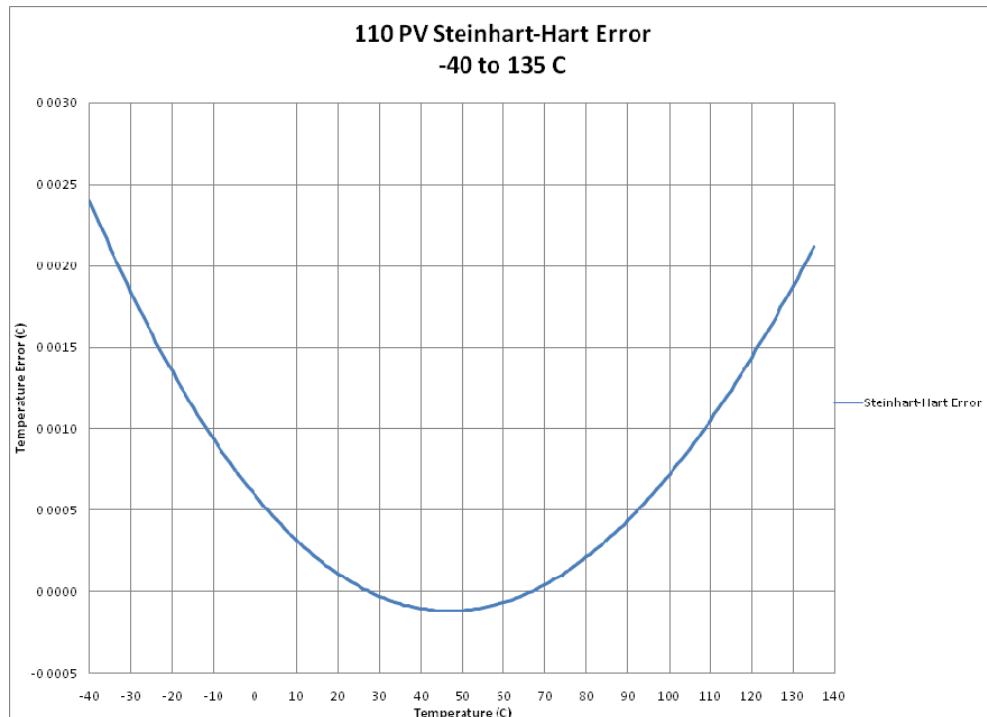
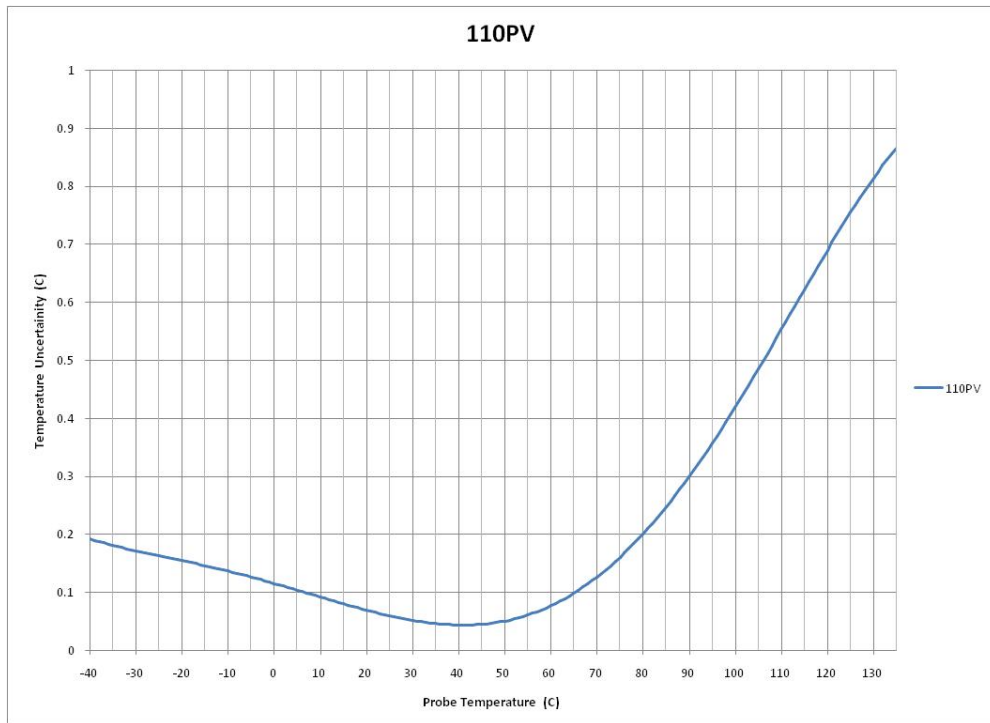

FIGURE 2-1. Steinhart-Hart Error
FIGURE 2-2. 110PV measured with a 3-wire half bridge
The overall probe accuracy is a combination of the thermistor's interchangeability specification and the accuracy of the bridge resistor. The Steinhart-Hart equation used to calculate temperature has a negligible error (Figure 2-1). In a "worst case" the errors add to an accuracy of  $\pm 0.2^{\circ}\text{C}$  over the range of  $-40^{\circ}$  to  $70^{\circ}\text{C}$ ;  $\pm 0.5^{\circ}\text{C}$  over the range of  $71^{\circ}\text{C}$  to  $105^{\circ}\text{C}$ ; and  $\pm 1^{\circ}\text{C}$  from  $106^{\circ}\text{C}$  to  $135^{\circ}\text{C}$ . The major error component is the interchangeability specification (tolerance) of the thermistor. The bridge resistor has a 0.1% tolerance with a 10 ppm temperature coefficient. Figures 2-2 to 2-7 show the possible worst case probe and measurement errors.
Connections to Campbell Scientific dataloggers are given in Table 4-1. Most CRBasic dataloggers can measure the 110PV using either a 4-wire half bridge or 3-wire half bridge. The CR200(X) and Edlog dataloggers can only use a 3-wire half bridge. The 4-wire half bridge method is preferred because it reduces cable errors (see Figures 2-2 and 2-3). The 4-wire half bridge method requires two differential input channels and one voltage excitation channel. The 3-wire half bridge method uses one single-ended input channel and one voltage excitation channel.
For these dataloggers, the BrHalf4W instruction is typically preferred because it reduces cable errors (see Figures 2-2 and 2-3). The BrHalf instruction requires fewer input channels.